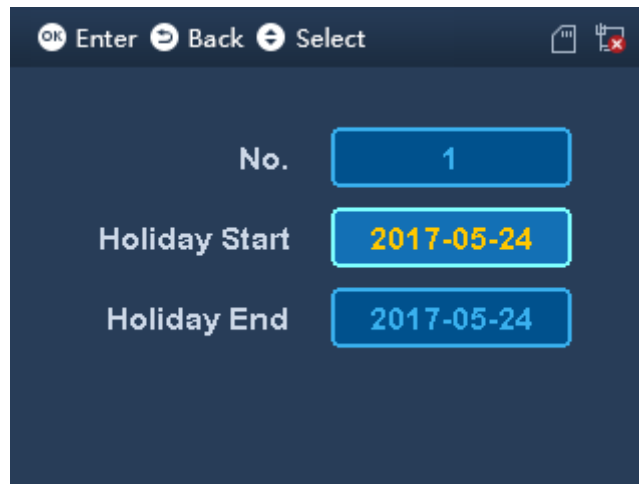

Figure 2-17
Step 2. Click , switch to function key above, click  and click . See Figure 2-17.